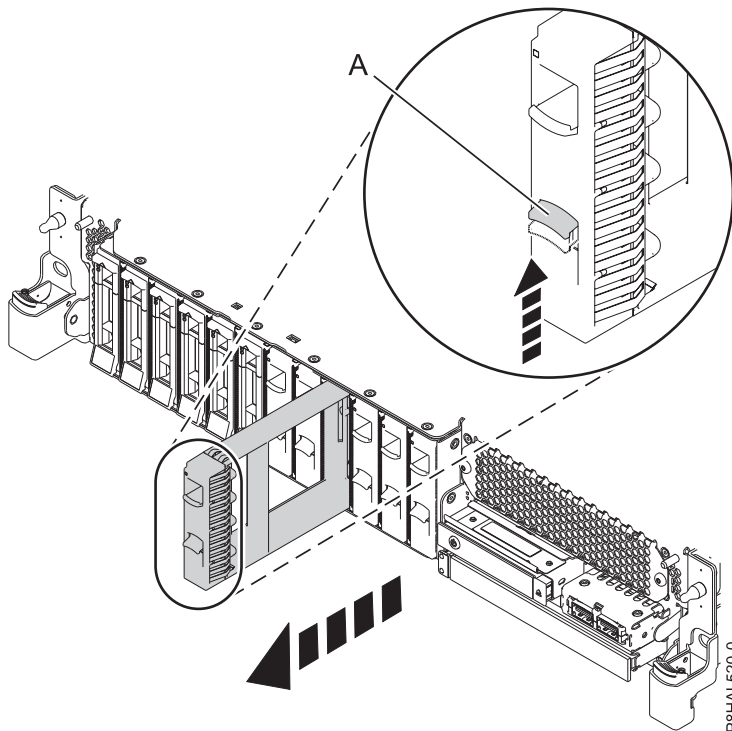

Figure 3. Removing a disk drive filler from a base function system
- a. Push the lock (A) on the handle of the filler in the direction that is shown in Figure 3.